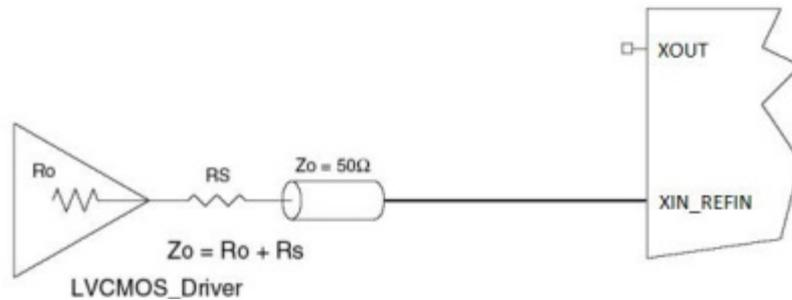

Figure 2. 1.2V LVCMOS Driver to XTAL Input Interface
5. Using a Crystal Oscillator (XO) with VersaClock 7
A crystal oscillator (XO) can be used in place of a crystal with VersaClock 7. To use a XO with VersaClock7, the XIN_REFIN input must be overdriven. The XIN_REFIN input can be overdriven by an LVCMOS driver or by one side of a differential driver through an AC coupling capacitor. The XOUT pin can be left floating. The amplitude of the input signal should be between 500mV and 1.2V, and the slew rate must be $\geq 0.2\text{V/ns}$. For 1.2V LVCMOS, inputs can be DC-coupled into the device as shown in Figure 2. For LVCMOS drivers with $> 1.2\text{V}$ swing, the amplitude must be reduced from full swing to at least 1.2V to prevent signal interference with the power rail. The sum of the driver output impedance and R_s must equal the transmission line impedance to prevent overshoot and undershoot.